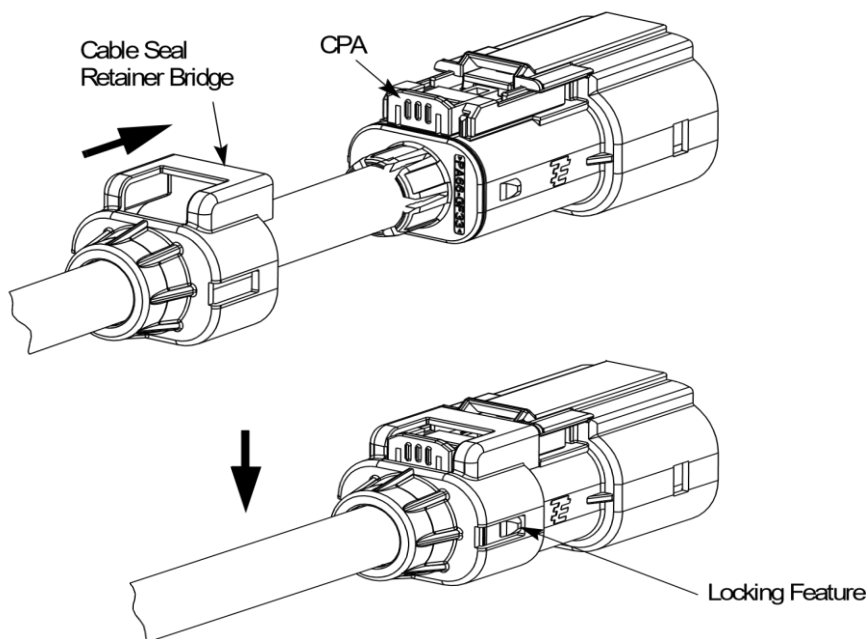

Figure 19
- 3.6.16.** Slide the cable seal retainer forward on the cable and over the cable exit end of the connector assembly until it fully locks to the connector outer housing. A slight rotation of the cable seal retainer may be required to get the bridge portion over the CPA. Visually check to ensure that both locking features are engaged and the CPA is in the correct position as shown in Figure 19. Gently pull back on the cable seal retainer to check that it is fully locked in place.